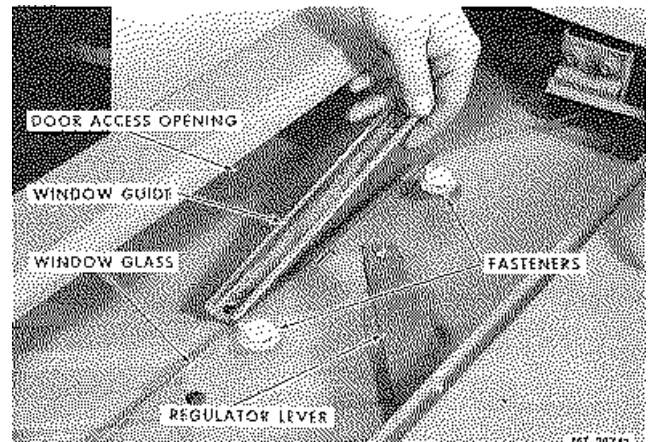

Fig. 11 Removing Window Guide From Window Glass
4. Working thru access opening remove two glass fastener screws from window guide and detach guide from glass and window regulator lever (Fig. 11).